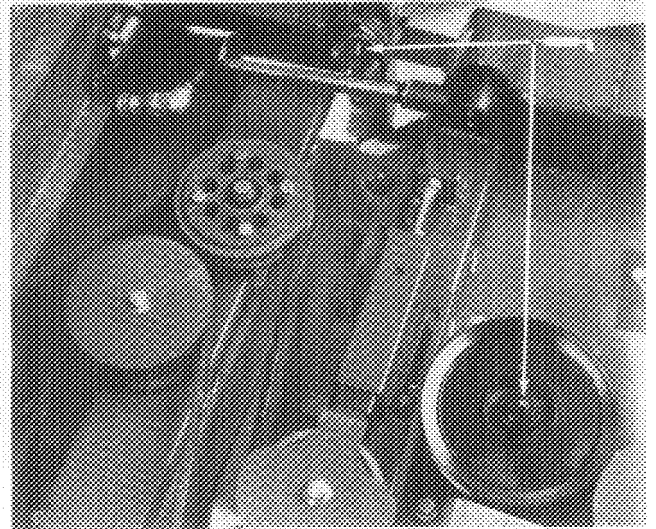
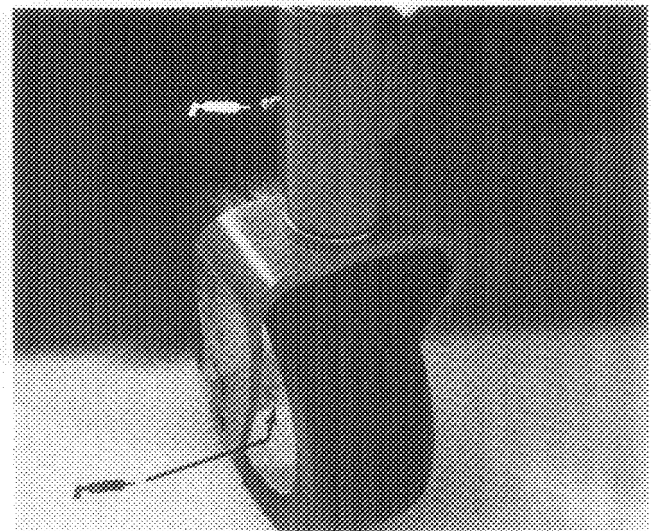
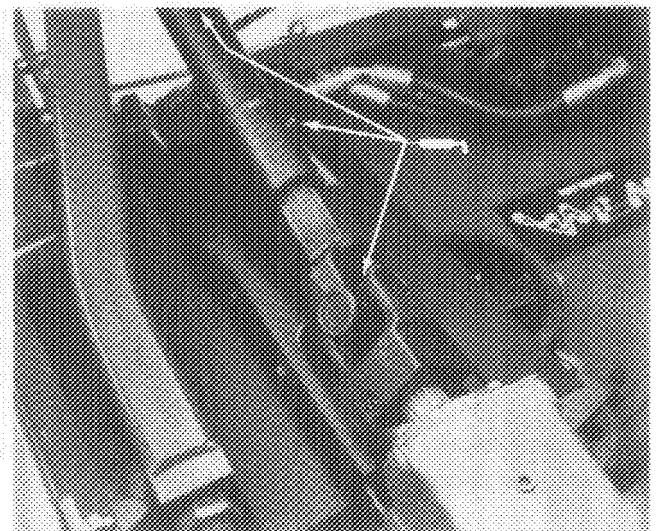

Figure 31
Figure 32
Figure 33
Cutting deck (2 & 4 wheel drive machines) – blade spindles (7) and Wing Deck Pivot pins (4) (Fig. 31); castor wheels (6); Castor fork shaft (4) (Fig. 32); Lift arm ball joints (2) and PTO to gear box drive shaft assembly (3) (Fig. 33).